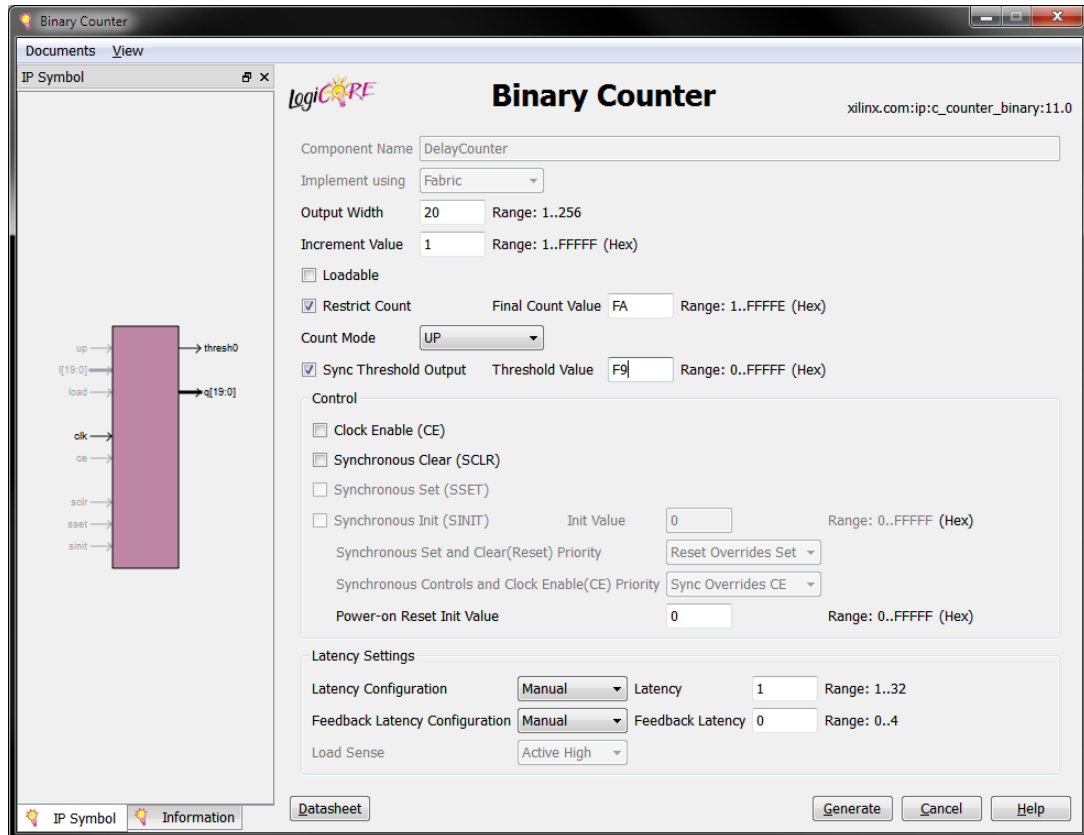

FIGURE 9 - BINARY COUNTER CONFIGURATION
- 2.10. Configure the Binary Counter as shown below in Figure 9.